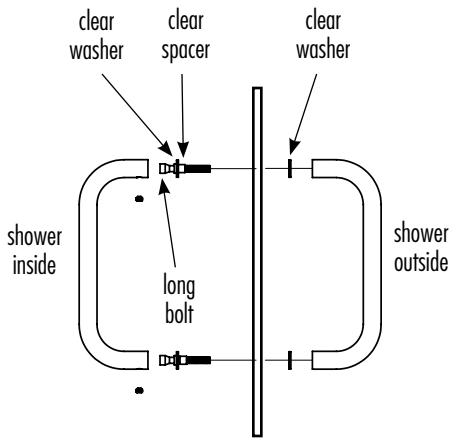

figure 29
6. Take one side of the handle and screw the long bolt into the end. Start the bolt until a few threads catch. Keep loose (fig. 29).
7. Put the second bolt through the second hole. Place the flat washer onto the bolt. Screw the bolt into the bottom end of the handle (fig. 29).